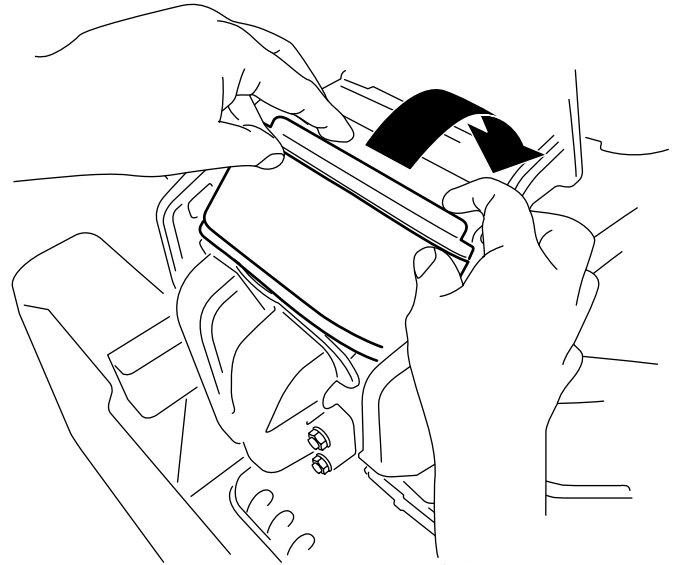

Figure 34
3. Rotate the filter down into the chamber and fully seat it against the manifold (Figure 34).